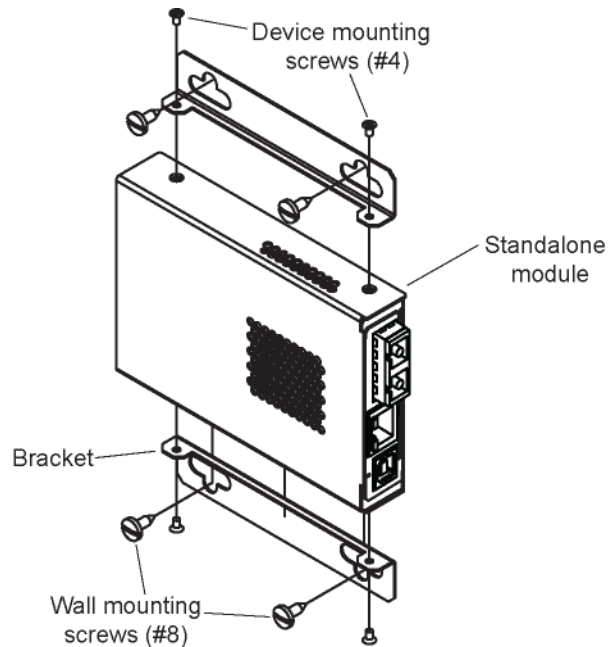

Figure 9: Wall Mount Installation
5. Push in and rotate clockwise the panel fastener screw to secure the card to the chassis (see “Figure 9: Chassis Installation” on the previous page).